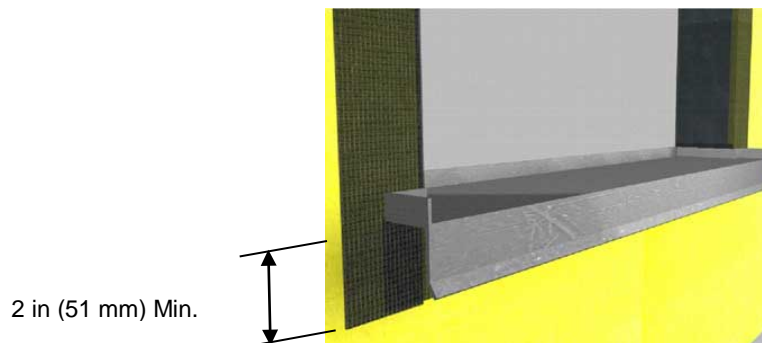

Figure 7
- a. Install a watertight pan flashing at all sill locations - Figure 7.
- c. The flashing shall extend a minimum of 2 1/2 in (64 mm) down over the face of the Infinity System - Figure 7.